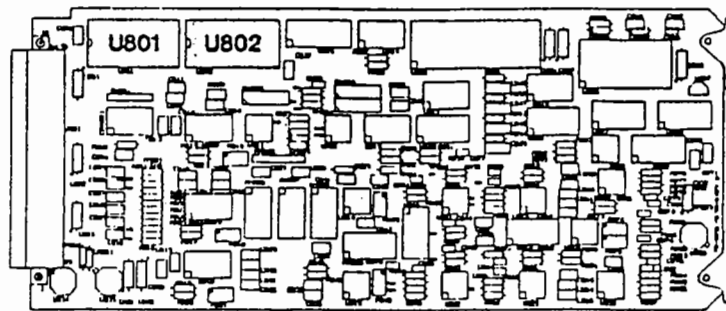

Figure 2 Analog Board.
- a) Install new software on the Analog Board by identifying EPROMs U801 and U802. Replace these with the version 3.21 EPROMs which bear the same reference designators. Correct orientation of these EPROMs is with the key toward the connector of the circuit card. Reference Figure 2.